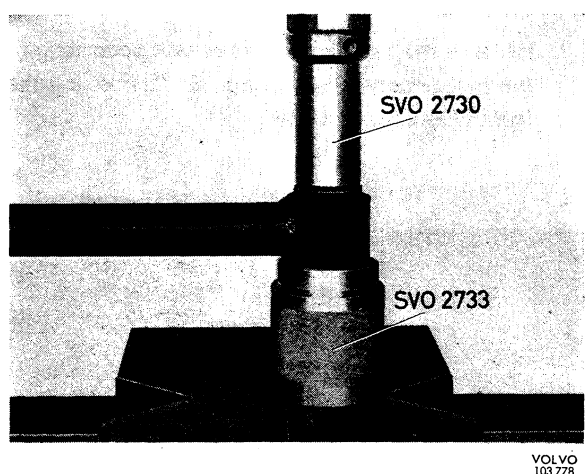

Fig. 7-12. Removing front bush on torque rod
6. Press out the front bush with SVO 2730, and with SVO 2733 as a counterhold (see Fig. 7-12).